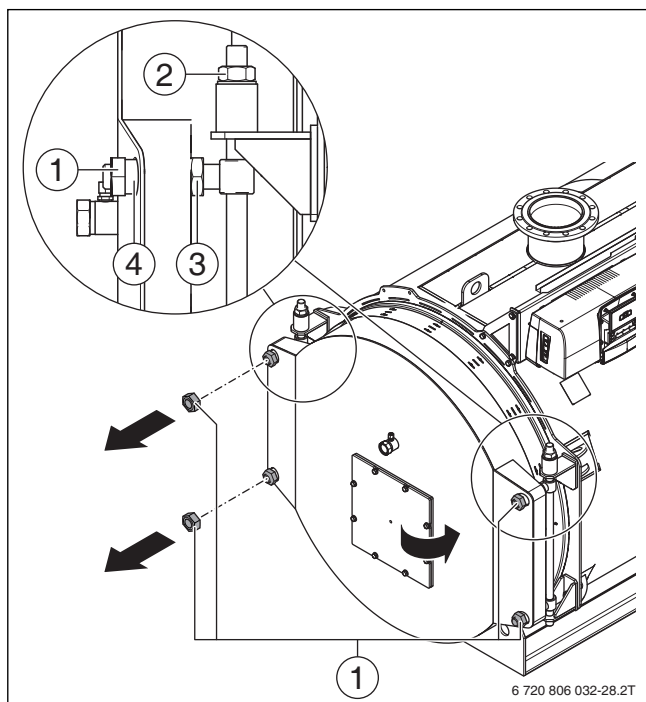

Fig. 18 Opening the burner door
- ▶ Screw the nut (→ Fig. 18, [1]) onto the hinge pin [4] and bring the door to just before the sealing faces.